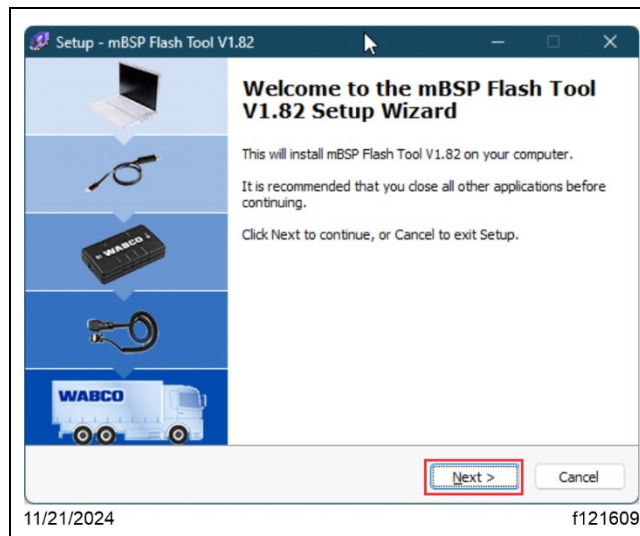

Fig. 34, mBSP Flash Tool Setup Wizard
7.5. The 'Setup - mBSP Flash Tool V1.85' window opens. Select 'Next' to continue the setup. See Fig. 34.